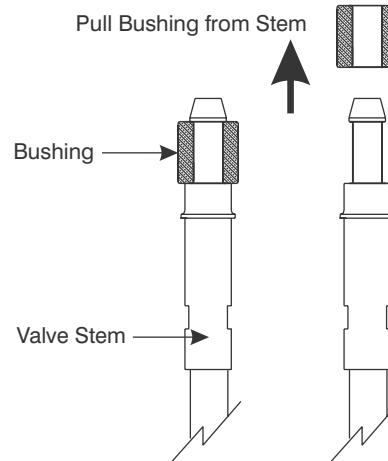

Figure 8-15. Remove the Valve Bushing from the Valve Stem.
4. Pull Valve Bushing (4) from the Valve Stem (5) by hand. See Figure 8-15.